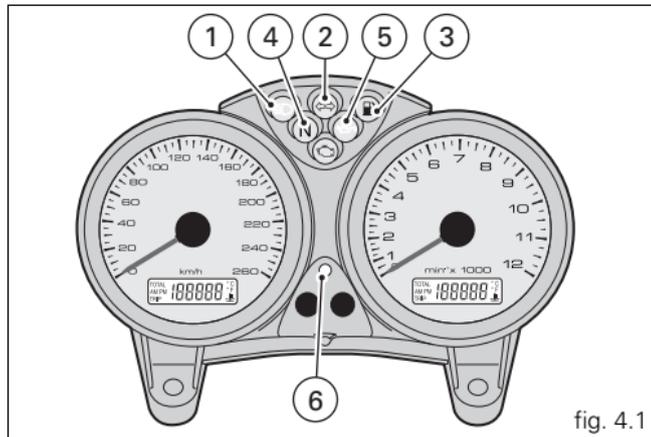
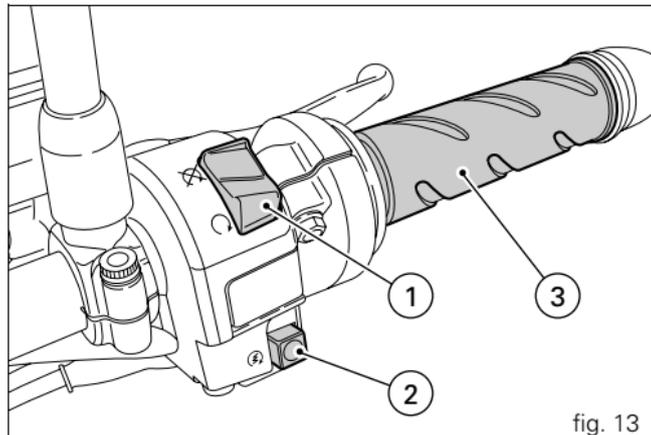

fig. 4.1
fig. 13
## Instrument panel (fig. 4.1 and fig. 4.2)
In the event of faults in the immobilizer system, the following procedure makes it possible to disable the “engine lock” function, which is indicated by the yellow-amber EOBD warning light (7, fig. 4.1).
The EOBD warning light (7, fig. 4.1) goes off after the pre-set time of 8 seconds.
- 3) Now enter the electronic release code shown on the CODE CARD given to the customer when the motorcycle was handed over by the dealer. The EOBD warning light will light up and start flashing. Count the number of flashes of the EOBD (7,fig. 4.1) light equal to the first number of the secret code. Turn the throttle twistgrip to the fully open position: The digit entered is acknowledged, and the EOBD warning light comes on and stays on for the pre-set time of 4 seconds. If no operation is performed with the throttle twistgrip, the EOBD light will flash 20 times and then illuminate steadily. In this case, repeat the procedure from step (1).
- 1) if the code is recognised, the warning light (6, fig. 4.1) on the instrument panel will flash briefly. This means that the immobilizer system has recognised the code and disabled the engine lock. When you press the START (2, fig. 13) button, the engine will start up.
- 2) If either the warning light (6, fig. 4.1) or the EOBD light (7, fig. 4.1) remain lit, the code has not been recognized. In this case, it is advisable to turn the ignition key back to OFF and then to ON again. If the engine still does not start, try using another black key. If the engine still does not start, contact the DUCATI Service network.
- 3) If the warning light (6, fig. 4.1) keeps flashing, it means that an error signal from the immobilizer system has been cleared (e.g. with the override procedure using the throttle twistgrip). Turn the key to OFF and back to ON; the immobilizer light should return to its normal state (see step 1).
## Right-hand handlebar switch (fig. 13)
## Throttle twistgrip (fig. 13)